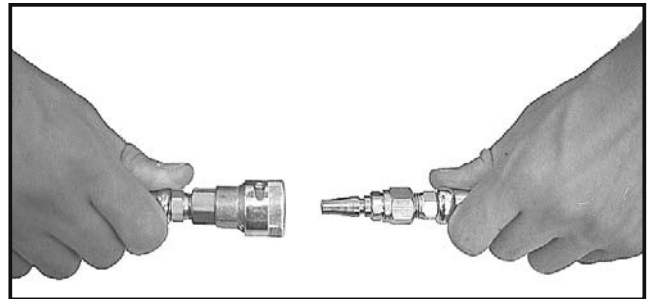

Fig. 2.
2. Connect the respirator to the air supply hose, making sure that the couplings are fitted together correctly (Fig. 2.). Pull on both hoses to make sure they are attached securely.